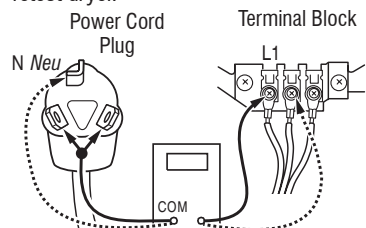

Figure 4a - Plug-to-terminal connections for electric dryer
**3.** With an ohmmeter, check for continuity between the neutral (N) terminal of the plug and the center contact on the terminal block. See figure 4a.
**4.** In a similar way, check which terminal of the plug is connected to the left-most contact on the terminal block and make a note of it. This will be L1 (black wire) in the wiring diagram. See figure 4a.